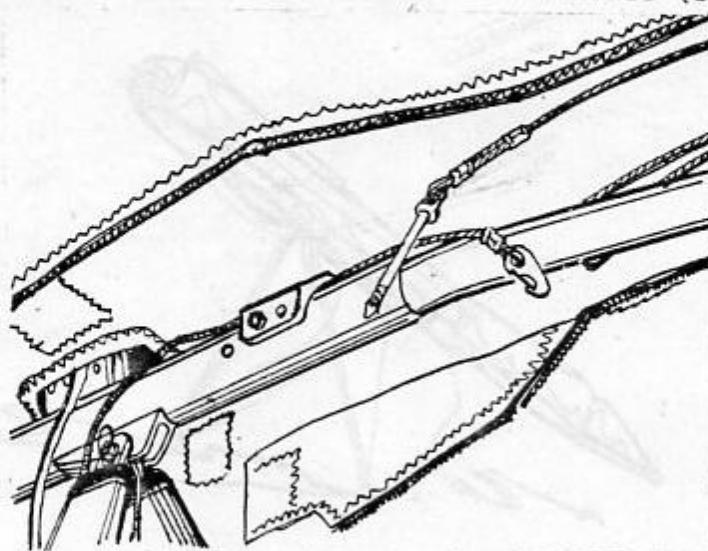

Fig. 5.1.3.
4. Unzip the rear section of the centerline zipper. Tension the crossbar slightly with the leech line; remove the bolt which secures the crossbar wires from the stop detail of the mechanism changing the leading edge sweep. Detach the hook of this mechanism from the crossbar. Pull the crossbar to the nose (Fig. 5.1.3).